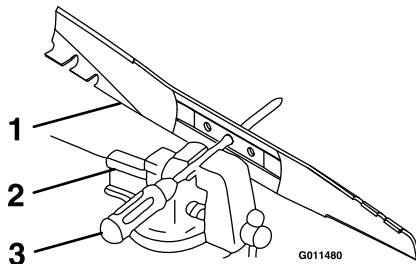

Figure 21
C. Check the balance of the blade by placing the center hole of the blade over a nail or screwdriver shank clamped horizontally in a vise (Figure 21). If either end of the blade rotates downward, file that end (not the cutting edge). The blade is properly balanced when neither end drops.